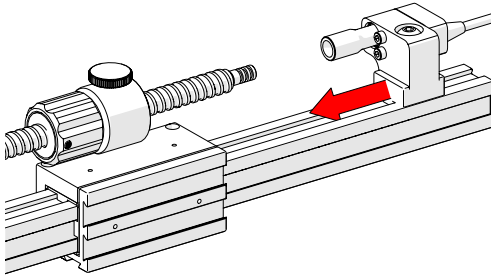
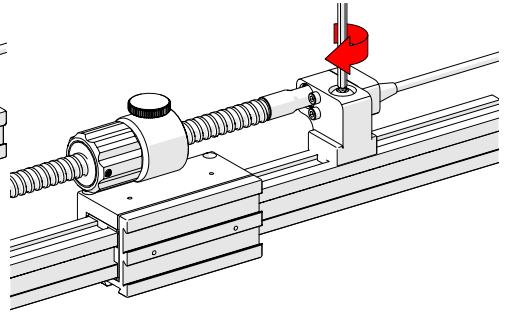

Fig. 131 - Loosen and slide post in place
Fig. 132 - Align and mount post
2. Slide the encoder's dovetail nut onto the frame bar (Fig. 131), continue sliding the encoder towards the leadscrew until the leadscrew and the encoder's coupling are attached (Fig. 132).
3. Tighten the encoder's lock screw (Fig. 132).